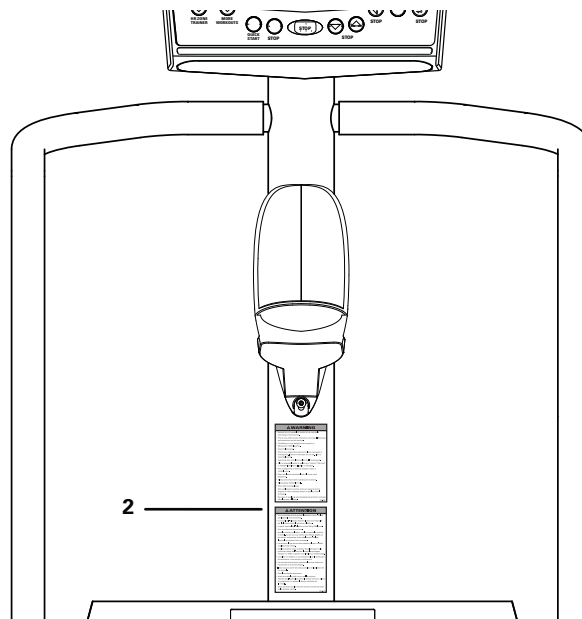

Figure 2
**Location:** Affixed to the mast below the console (see Figure 2).